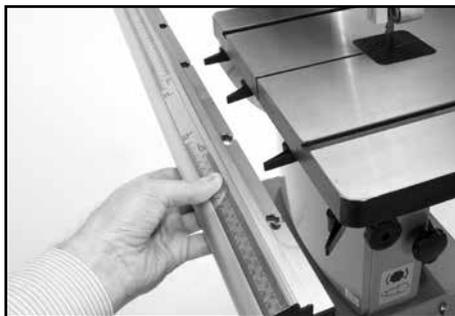

FIG. 15
9.7 CHANGING AND SETTING THE NEW BLADE – FIGS. 15 – 16